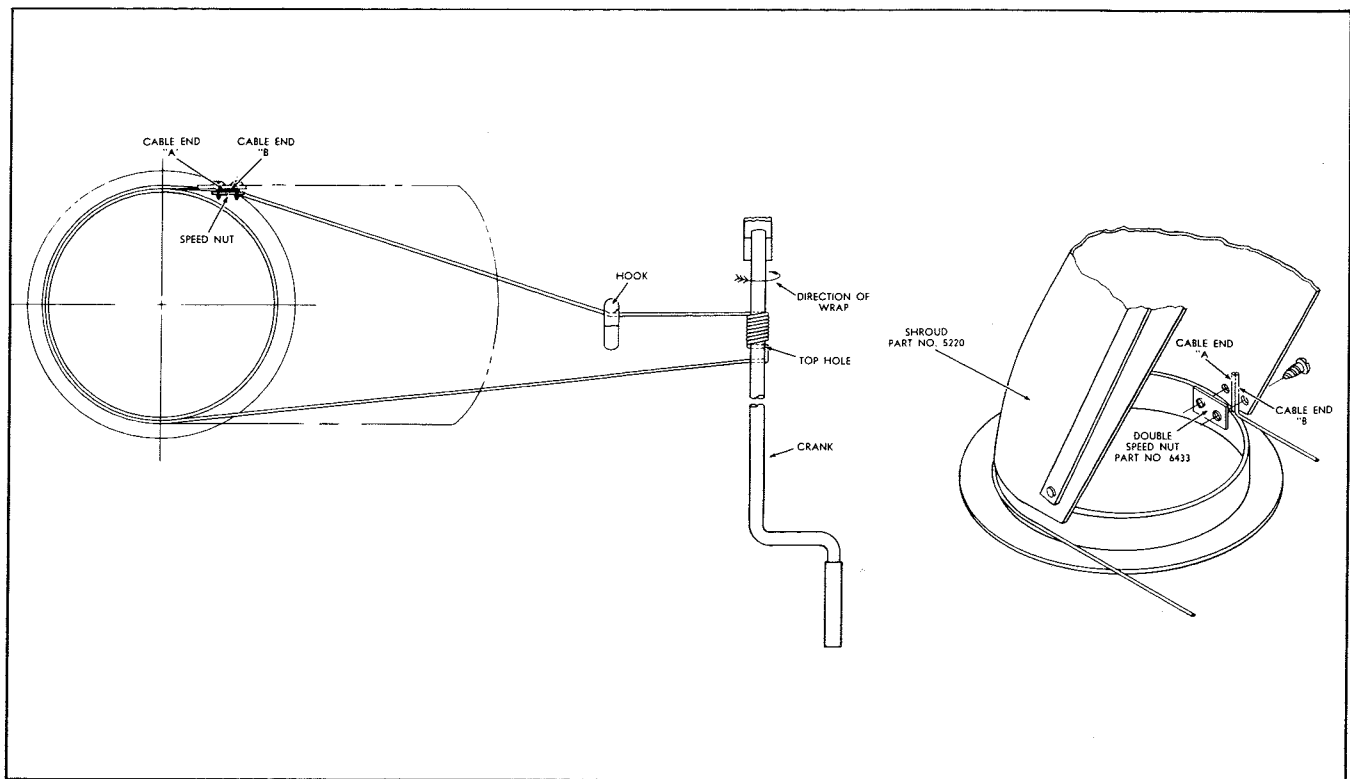

Figure 3
1. Face Shroud, Part No. 5220 to the right. (See Fig. 3.)
No. 6413, and then wrap eight (8) complete turns in direction shown in Fig. 3. Finish last turn on bottom of crank. Pull cable end "B" behind the hook on the wrapper assembly and thread up under the double speed nut. Retighten screws just enough to retain cable.